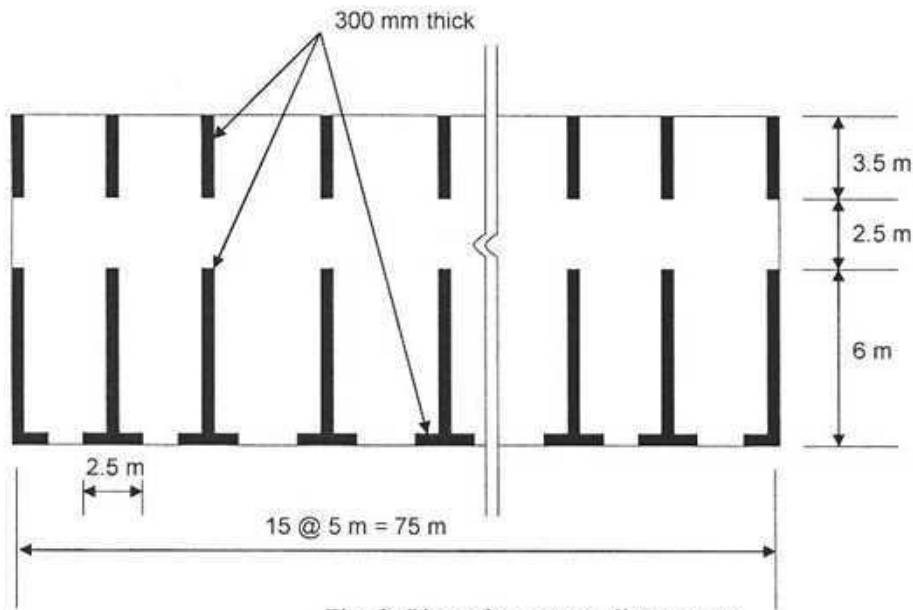

Fig. 3: Plan of a cross wall structure
3. Figure 3 shows the floor plan of a cross wall structure. The shear walls are interconnected through beams ( $300 \text{ mm} \times 400 \text{ mm}$ ). The building is 105 m high (30 stories, each of 3.5 m height). The bases of the walls are fixed. A uniform wind load of  $1.75 \text{ kN/m}^2$  acts on the building parallel to the short direction. Calculate the stresses due to wind load at the base of each wall in an interior panel. Use the continuous medium method and graphs prepared by Coull and Choudhury. (25)